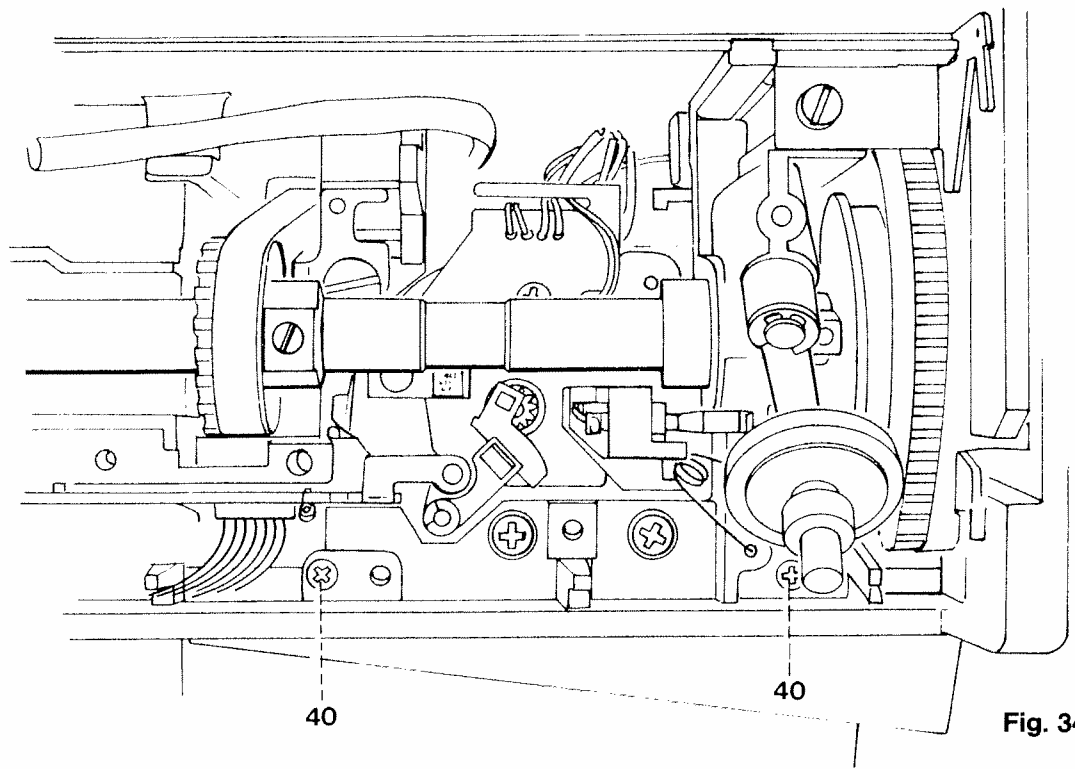

Fig. 34
- Insert both screws 40 and fasten the programming panel at the top (Fig. 34).